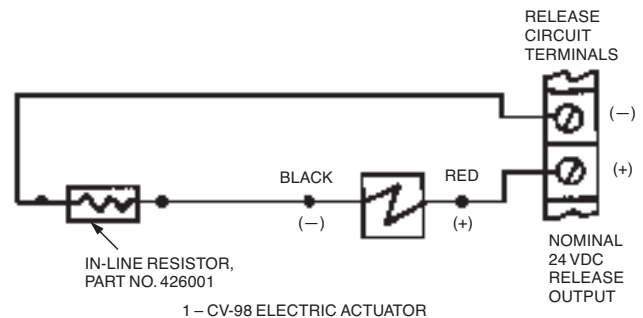

FIGURE 2
- Figure 2 shows a typical diagram for wiring one CV-98 electric actuator (Part No. 423684) to the release circuit of AUTOPULSE microprocessor-based control panel Polarity must be observed when wiring this circuit. (Always check with the control panel manual for specific details pertaining to release circuit wiring.)